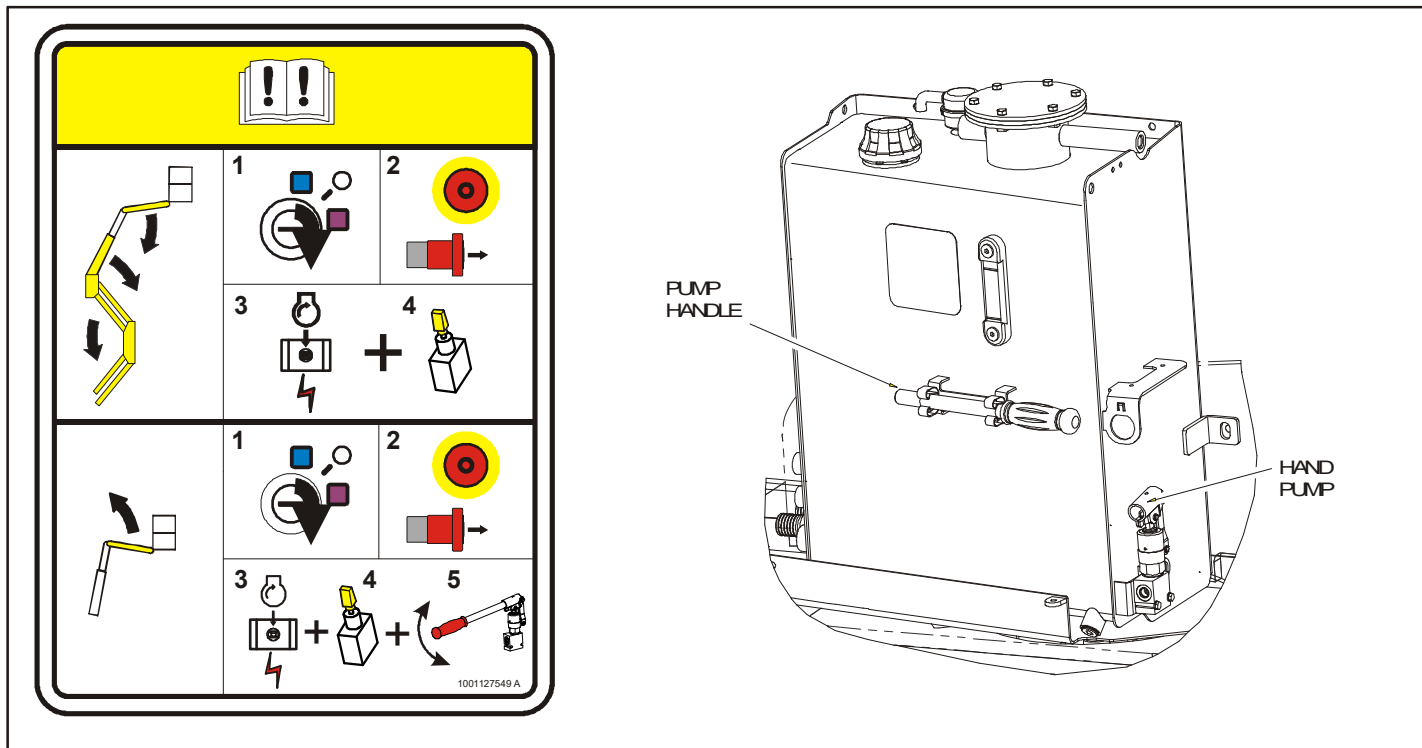

Figure 5-1. Auxiliary Descent Decal and Hand Pump
*Refer to Figure 5-1., Auxiliary Descent Decal and Hand Pump.*